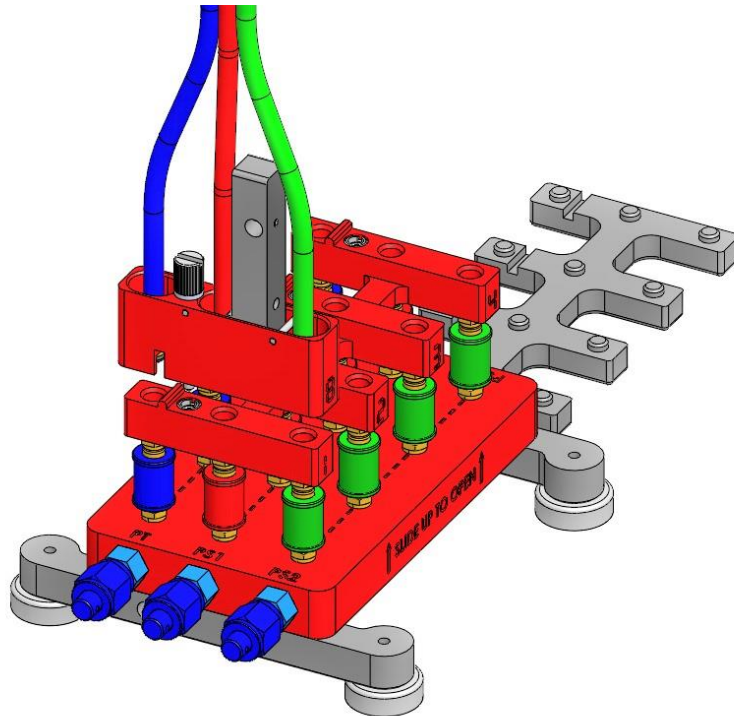

Figure 7: ridge on ADIM manifold connector and notch on hose connector aligned, dust cap in pocket
- B. Remove the dust cap from one connector on Hose Set 1 and place the dust cap in the pocket between the red and green hoses. Align the ridge on the ADIM manifold connector port 1 with the notch on the hose connector 1 (Figure 7).